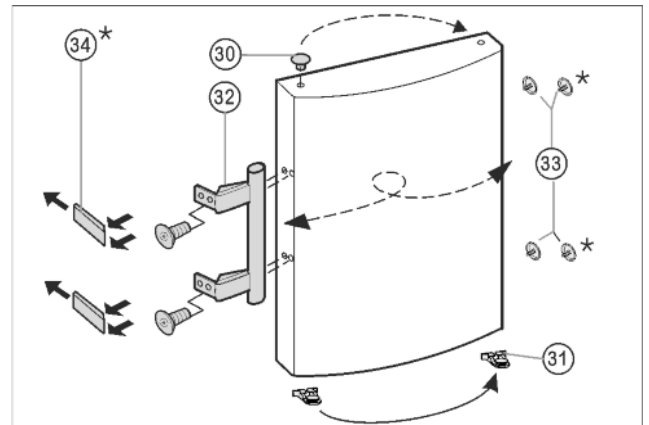

Fig. 7
- ▶ Lift the stopper Fig. 7 (33) out of the door bearing bush and transfer it.
- ▶ Dismantle the door handle Fig. 7 (32), stoppers Fig. 7 (33) and pressure plates\* Fig. 7 (34) and transfer to the opposite side.